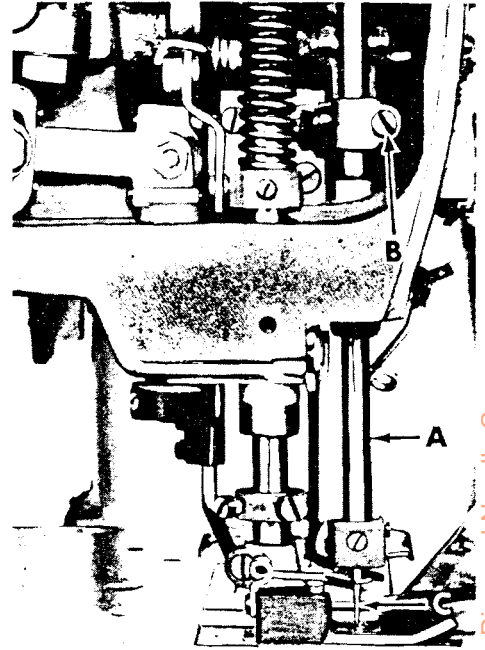
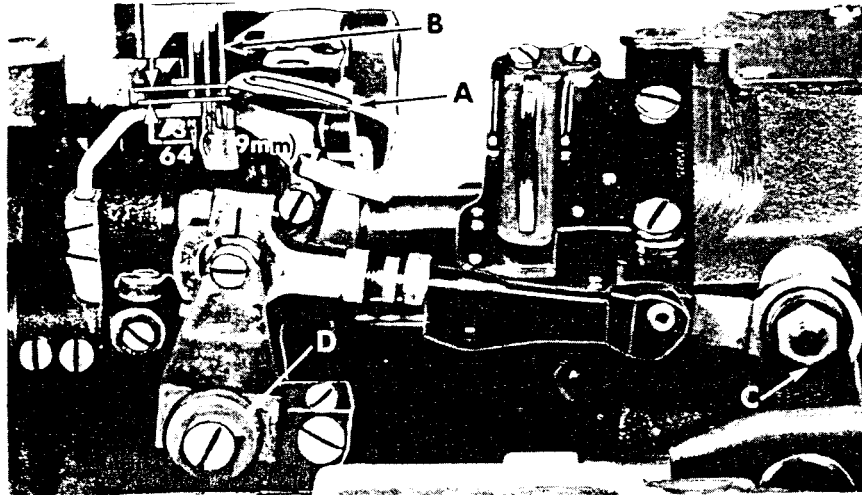
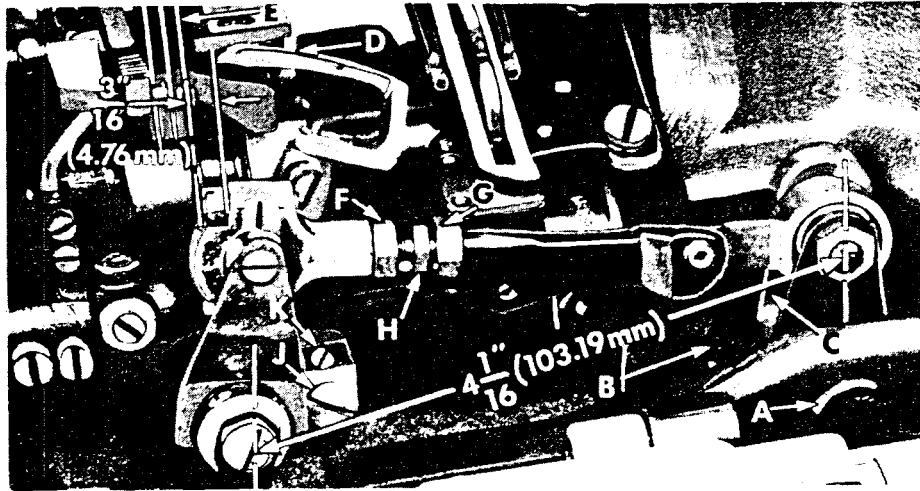

Fig. 4
Fig. 5
Fig. 6
Align the needle bar (A, Fig. 4) and set to height, using the proper test pins and test plate of the right gauge. See chart below.
If test plate and test pins are not available, insert a new set of needles (Type and Size as required) and align the needle bar so the needles center in the needle holes of throat plate. To align needle bar, loosen needle bar clamp screw (B, Fig. 4) and turn bar as required. Tighten clamp screw.
Insert the looper in the looper rocker and turn handwheel in operating direction until the point of the looper (A, Fig. 5), moving to the left is even with the left side of right needle (B). Note the height of the eye of the needle with respect to the looper point, then turn handwheel in the reverse direction until the looper point again moves to the left, and is even with the left side of the right needle.
If the motions synchronize, the height of the eye of the needle with respect to the looper point will be the same. A variation of .005 inch (.127 mm) is allowable. If the distance from the eye of the needle to the point of the looper is greatest when the pulley is turned in the operating direction, move the looper drive shaft synchronizing stud (A, Fig. 6) to the rear. Moving it in the opposite direction acts the reverse.
Moving of the looper drive lever shaft synchronizing stud is accomplished as follows: Loosen the clamp screw (B, Fig. 6) of the looper drive lever (C). To move stud to rear (away from operator), a light tap with a small hammer, directly on the stud, is all that is required. To move stud forward (toward operator), remove the cloth plate, throat plate support, oil reservoir top cover and oil reservoir back cover, then, a light tap on the looper drive lever rocker shaft, toward the operator, is all that is required.
NOTE: Looper drive lever (C, Fig. 6) has an oil seal collar and an "O" ring between it and the bed casting. All end play must be removed from the looper drive lever rocker shaft by compressing the "O" ring until drive lever (C) and the oil seal collar make metal to metal contact with the bed casting. Tighten screw (B).
With the looper at the extreme right end of its travel, check the location of the center line of the right looper connecting rod bearing, using gauge No. 21227 CX. Remove nut (C, Fig. 5) and place hole in gauge over threaded stud. The left end of the gauge should locate against the right side of the looper rocker cone (D). If adjustment is necessary, loosen the clamp screw (B, Fig. 6) and reposition the looper drive lever (C) as required. Tighten clamp screw. If gauge is not available setting can be checked with a scale. The distance between the center line of the looper rocker cone and the center line of the looper lever stud should be 4 1/16 inch (103.19 mm) (Fig. 6), when looper is at the extreme right end of its travel. Refer to "NOTE" in above paragraph.
Insert a new needle in the right needle seat, type and size as specified. If the looper gauge is 3/16 inch (4.76 mm), for example, set the looper (D, Fig. 6) so the distance from the center of the right needle (E) to the point of the looper is 3/16 inch (4.76 mm) when the looper is at its farthest position to the right. Looper gauge No. 21225-3/16 can be used advantageously in making this adjustment. Refer to chart below for needle Type, looper gauge setting and looper gauge number for the various styles of machines. If adjustment is required, loosen nut (F) (it has a left hand thread) and nut (G) on connecting rod (H), turn the connecting rod forward or backward to obtain the 3/16 inch (4.76 mm) dimension. Retighten both nuts, first nut (G) and then nut (F). Make sure the left ball joint is in vertical position and does not bind after adjustment.
If adjustment is necessary, loosen lock screw (J, Fig. 6) and turn stop screw (K) as required. Turning stop screw clockwise sets the looper to the rear and turning it counterclockwise acts the reverse.
The height of the needle (C, Fig. 4) is correct when the top of its eye is 3/64 inch (1.19 mm) (Fig. 5) below the underside of the looper, with the looper point flush with the left side of the needle. If adjustment is necessary, loosen screw (B, Fig. 4) and move needle bar (A) up or down as required and retighten screw. Care should be taken not to disturb the alignment of the needle bar when moving the needle bar either up or down.